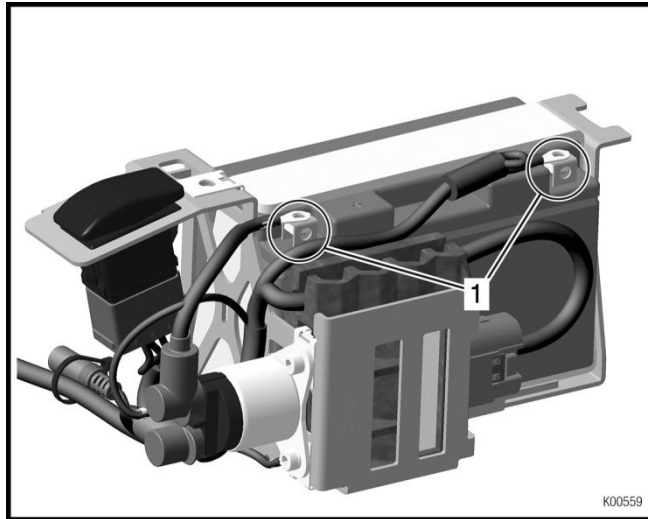

Fig. 35
- ◆ **Note:** The battery terminals (pos. 1) must point in the direction of the control unit. See Fig. 35.